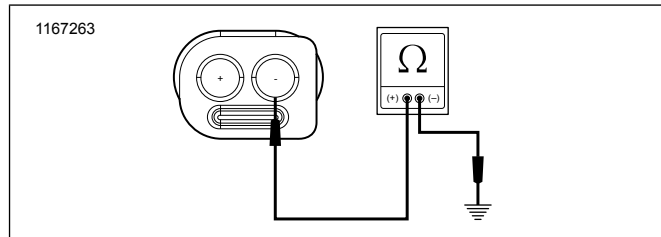

Figure 3.
1. See Figure 3. Test resistance between [77B] terminal (-) and ground 1.